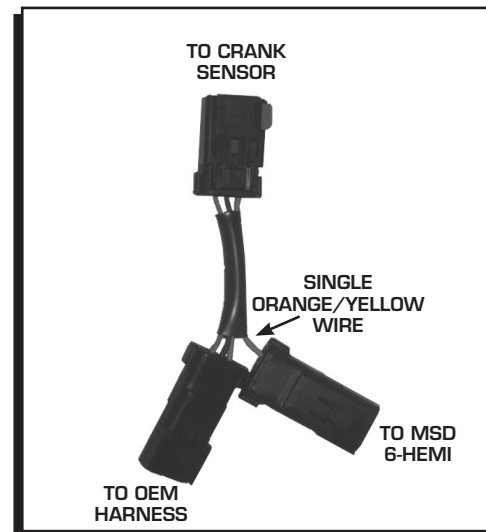

Figure 3 Crankshaft Sensor Harness.
3. Connect the connector with the three wires to the OEM harness (Figure 3).